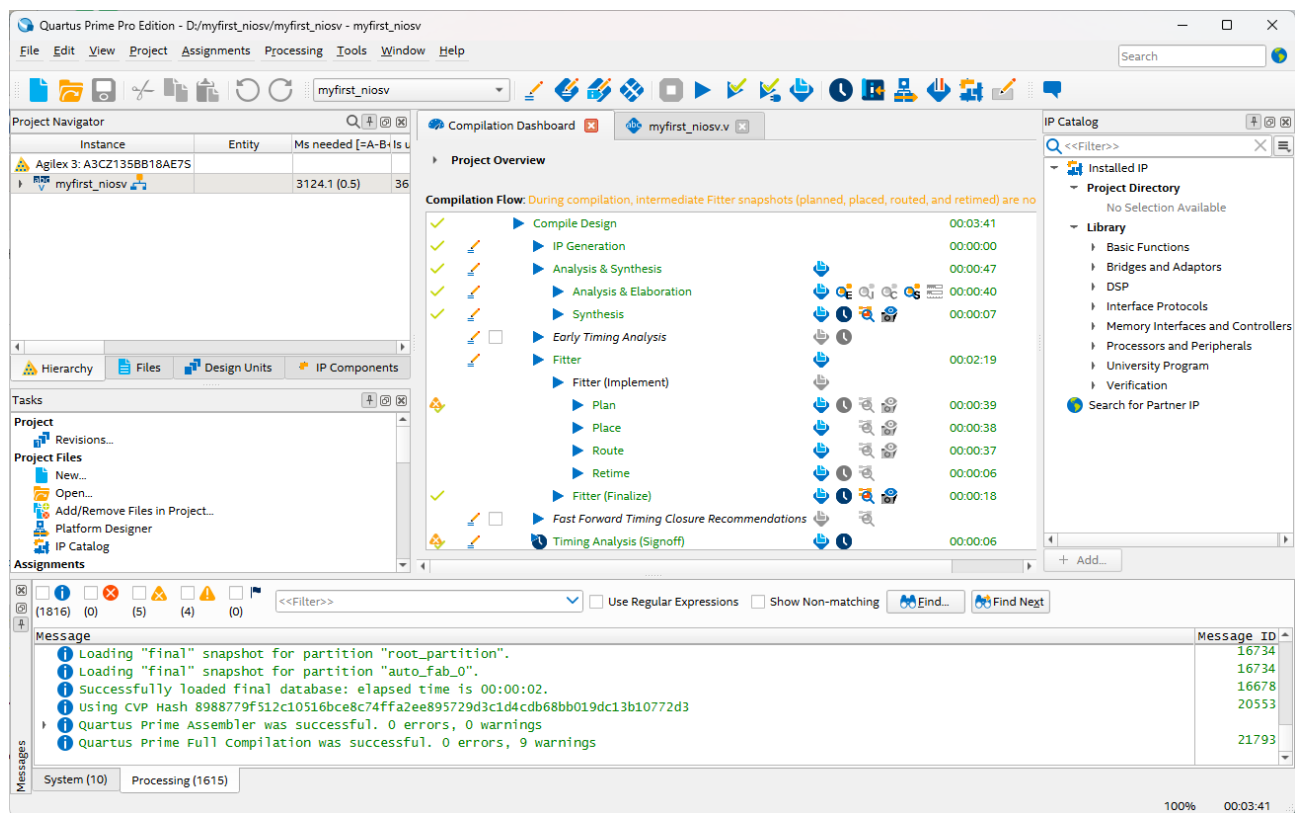

Figure 2-38 Compilation project completely
2. A window that shows successfully will appear as shown in Figure 2-38.